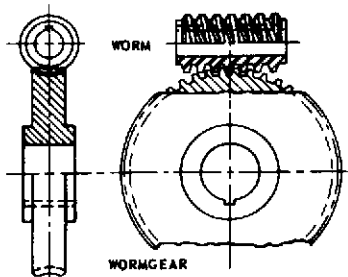

FIGURE 1.2 — WORMGEARING
- 1.05** A **Worm** is a gear with one or more teeth in the form of screw threads. (Figure 1.2)
- 1.06** A **Wormgear** is the mate to a worm. A wormgear that is completely conjugate to its worm has line contact and is said to be single enveloping. It is usually cut by a tool that is geometrically similar to the worm. An involute spur gear or helical gear used with a cylindrical worm has only point contact. (Figure 1.2)